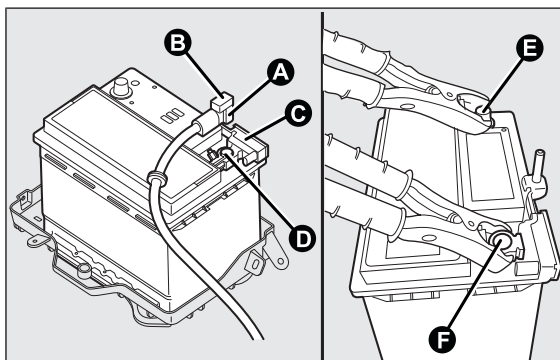

fig. 219
- ☐ connect the positive cable of the battery charger to the positive battery terminal E and the negative cable to sensor terminal F as in fig. 219;
- ☐ after having disconnected the charger, reconnect connector A to the sensor C as in fig. 219.